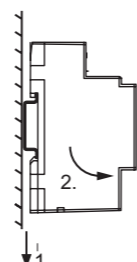

Figure 2: Removal
- To remove (see figure 2) pull down the latch (i) [1] using a screwdriver or operating tool.